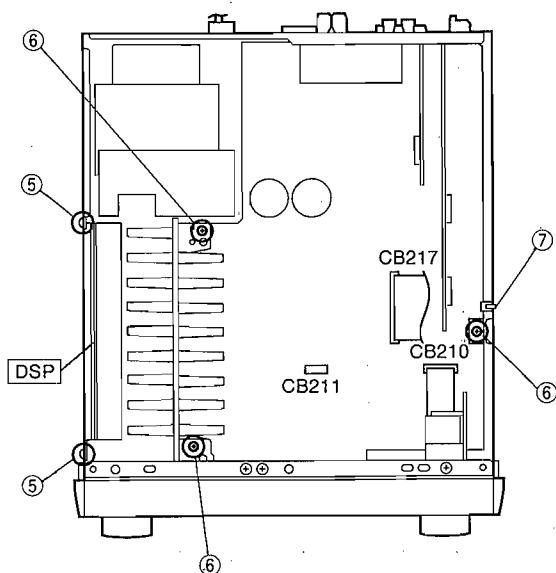

Fig. 2
Remove 3 connectors CB217, CB210, CB211 in Fig. 2.
- Remove 2 screws (⑤) in Fig. 2.
- Remove 3 screws (⑥) fixing the P.C.B. Main in Fig. 2.
- Remove 1 wire tie (⑦) in Fig. 2.